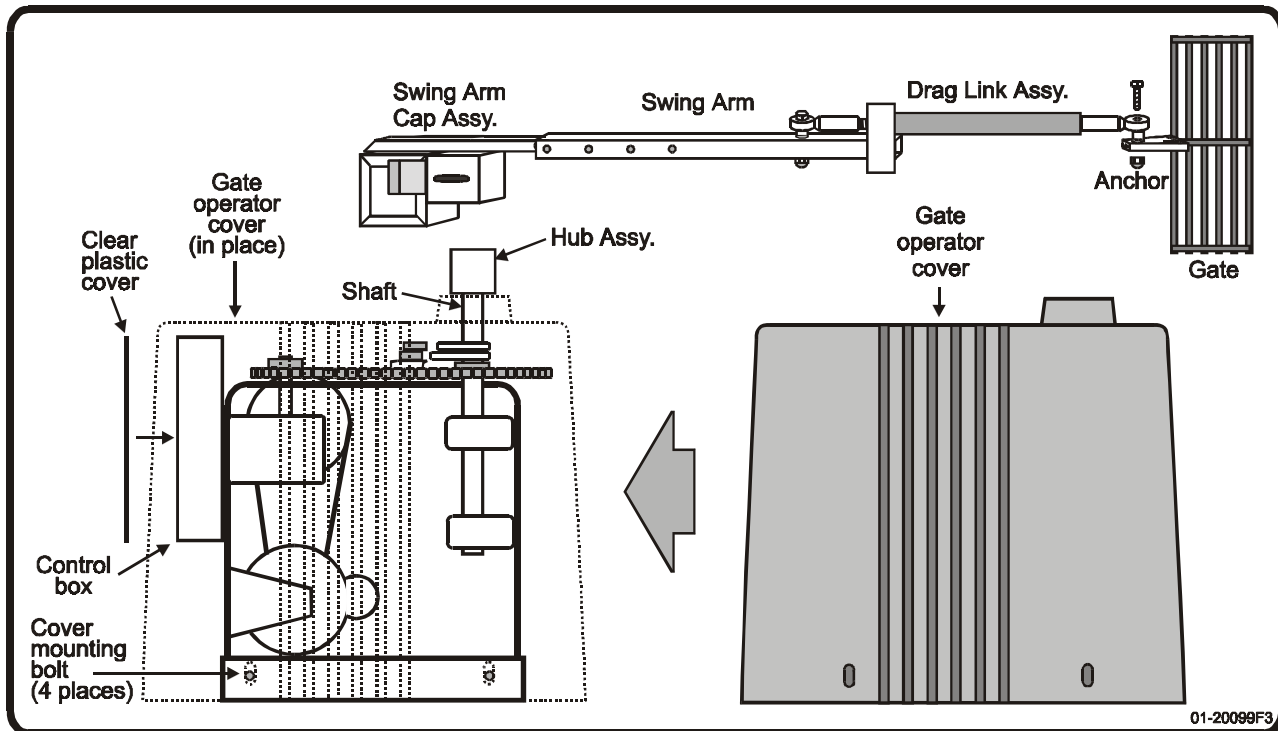

Figure 18. Gate Operator Disassembly and Assembly.
- ◆ Refer to Figure 18, above, to perform the following instructions.